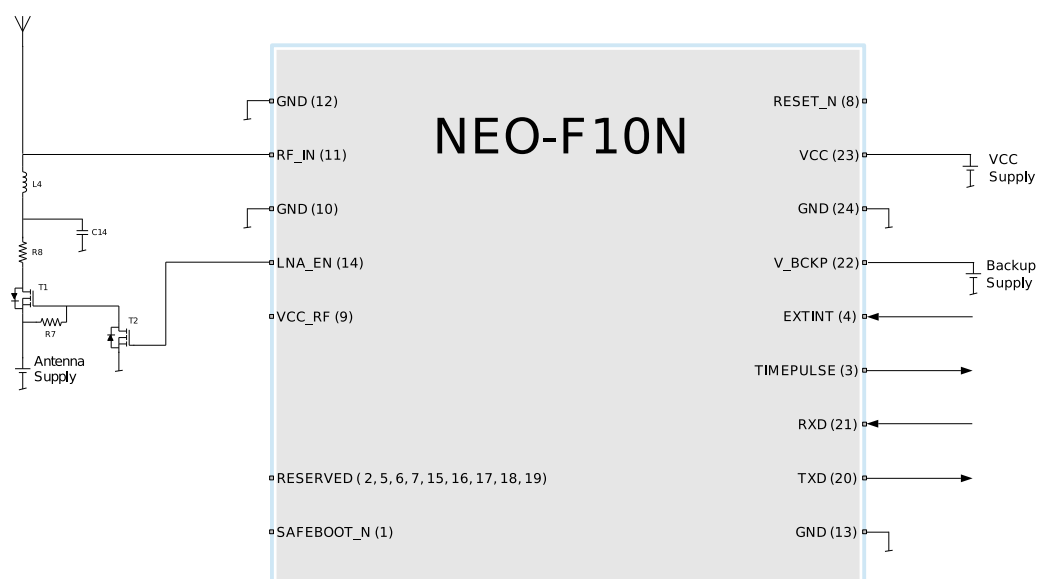
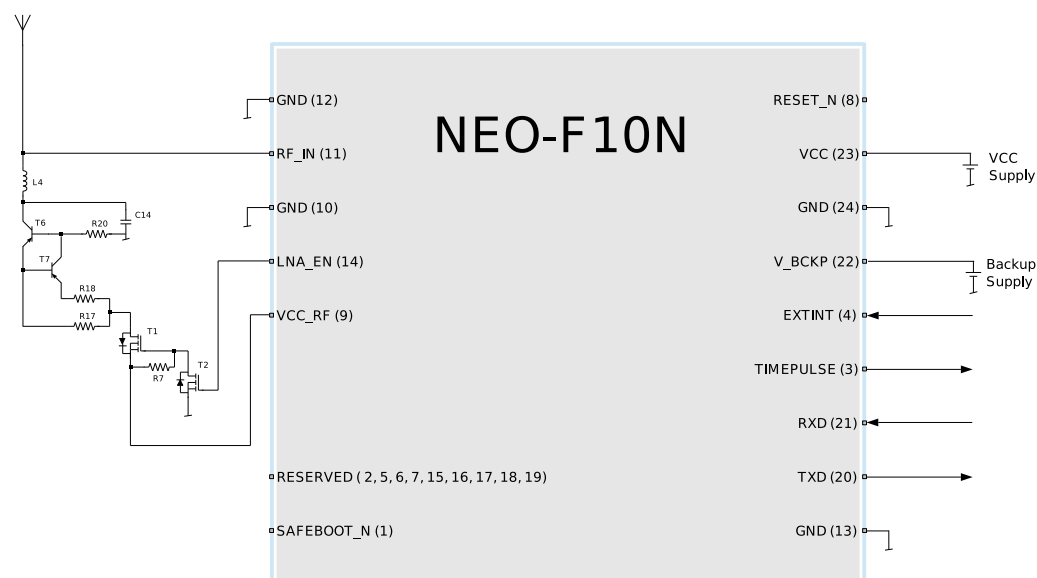

Figure 15: Design with active antenna controlled by LNA_EN signal
Figure 16: Design with active antenna supplied by VCC_RF and controlled by LNA_EN signal
- The active antenna can be supplied either with the VCC_RF output from NEO-F10N as shown in Figure 16 or from an external supply as shown in Figure 15. In both figures the supply is controlled by the LNA_EN signal. The LNA_EN signal combined with the dual MOSFET switches on/off the antenna power supply when VCC supply is removed or during software standby mode, saving the antenna power consumption during the off periods.
- Designs using the VCC_RF output to supply the GNSS antenna require a current limiter circuitry in case of short circuit on the antenna side. Figure 16 shows the required components. The R17 resistor value defines the maximum current in case of antenna short circuit.